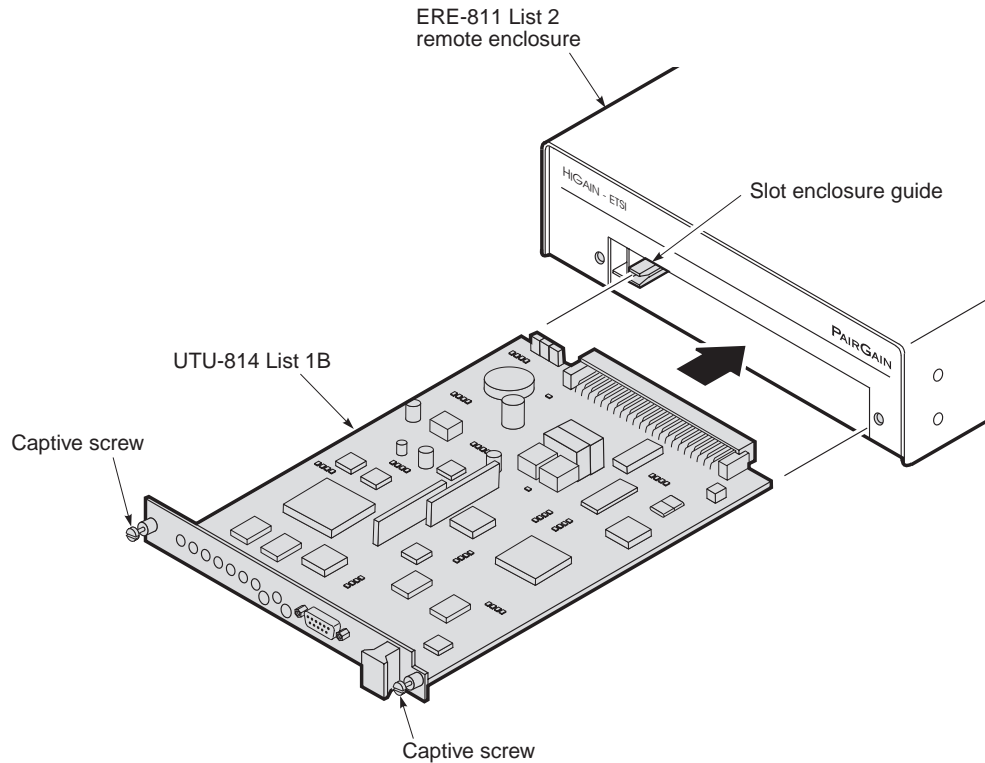

Figure 5. Installing the UTU-814 List 1B into the ERE-811 List 2 Remote Enclosure
- 1 Align the card with the enclosure guides at the left and right sides of the enclosure opening (Figure 5).